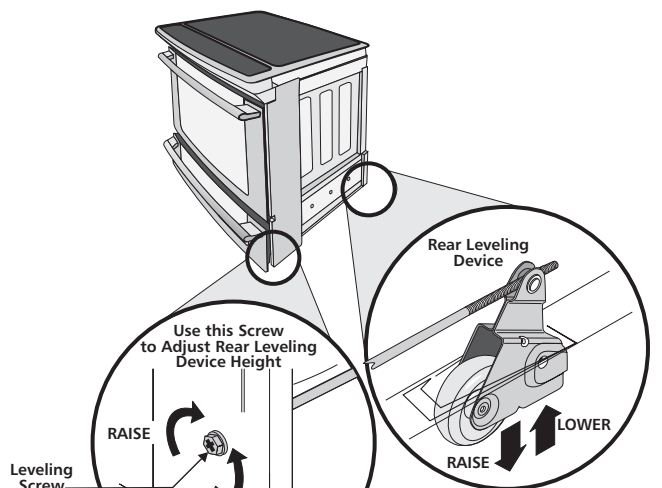

Figure 9
2. Adjust the appliance legs and wheels as follows until the underside of the cooktop surface is sitting level on the countertop (Figure 9).